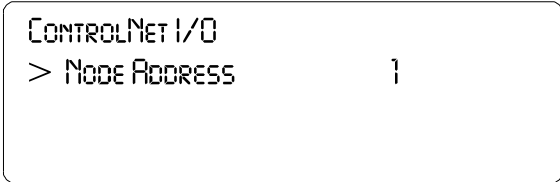

FIG. 56: CONTROLNET I/O MENU/SETTING NODE ADDRESS
- Step 5. Press the Enter button. The ControlNet I/O Menu appears. (See Fig. 56)